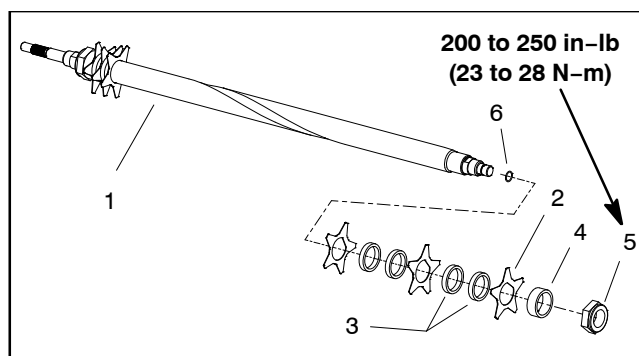

Figure 14
Disassembly (Fig. 14)
2. Remove lock nut from either end of the shaft (Fig. 14).
Assembly (Fig. 14)
1. Start by placing thick spacer against the lock nut installed on one end of groomer shaft. Then, place first blade against installed spacer (Fig. 14).
2. For 1/2 inch (1.3 cm) blade spacing, make sure there are two (2) blade spacers between blades (Fig. 14).